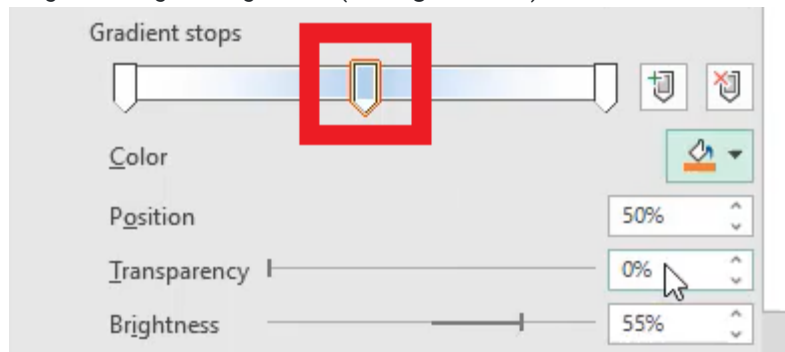

Figure 37.38
3. In the middle stop, change it to a light orange color. (See **Figure 37.38**)